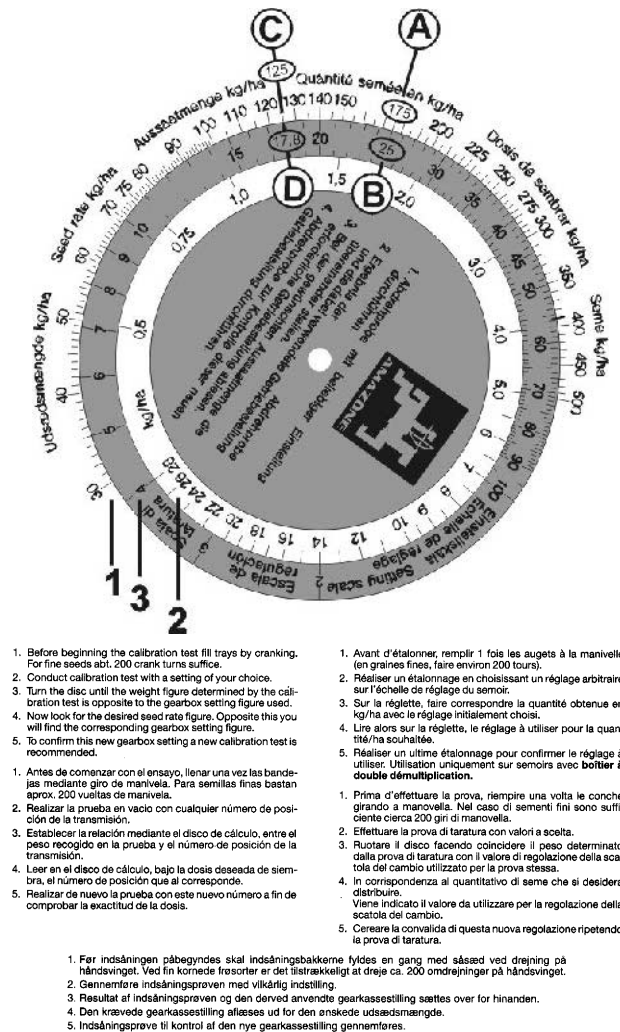

Fig. 72
The disc rule consists of three scales: One outer white scale (Fig. 72/1) for all seed rates above 30 kg/ha and an inner white scale (Fig. 72/2) for all seed rates below 30 kg/ha. On the central, coloured scale (Fig. 72/3) gearbox settings from 1 to 100 are printed.
- Align the seed rate 175 kg/ha (Fig. 72/A) and the "gearbox setting position 25" (Fig. 72/B) on the disc rule.
- Now read off the disc rule the gearbox setting figure for the desired seed rate of 125 kg/ha (Fig. 72/C). In our example that is the "gearbox setting position 17.8" (Fig. 72/D).